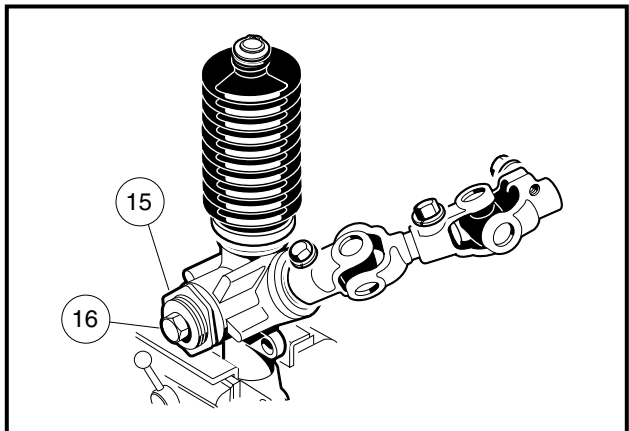

Figure 7-14 Rack and Pinion Adjustment
- 11.4. If measured resistance does not equal 7 to 15 in-lb, loosen the lock nut (15) and tighten the screw (16) until it bottoms out, then back the screw off one quarter turn. Tighten the lock nut to 28 ft-lb (38 N·m) (**Figure 7-14, Page 7-12**).
**NOTE:** When tightening the lock nut (15) make sure the screw (16) does not change adjustment (**Figure 7-14, Page 7-12**).